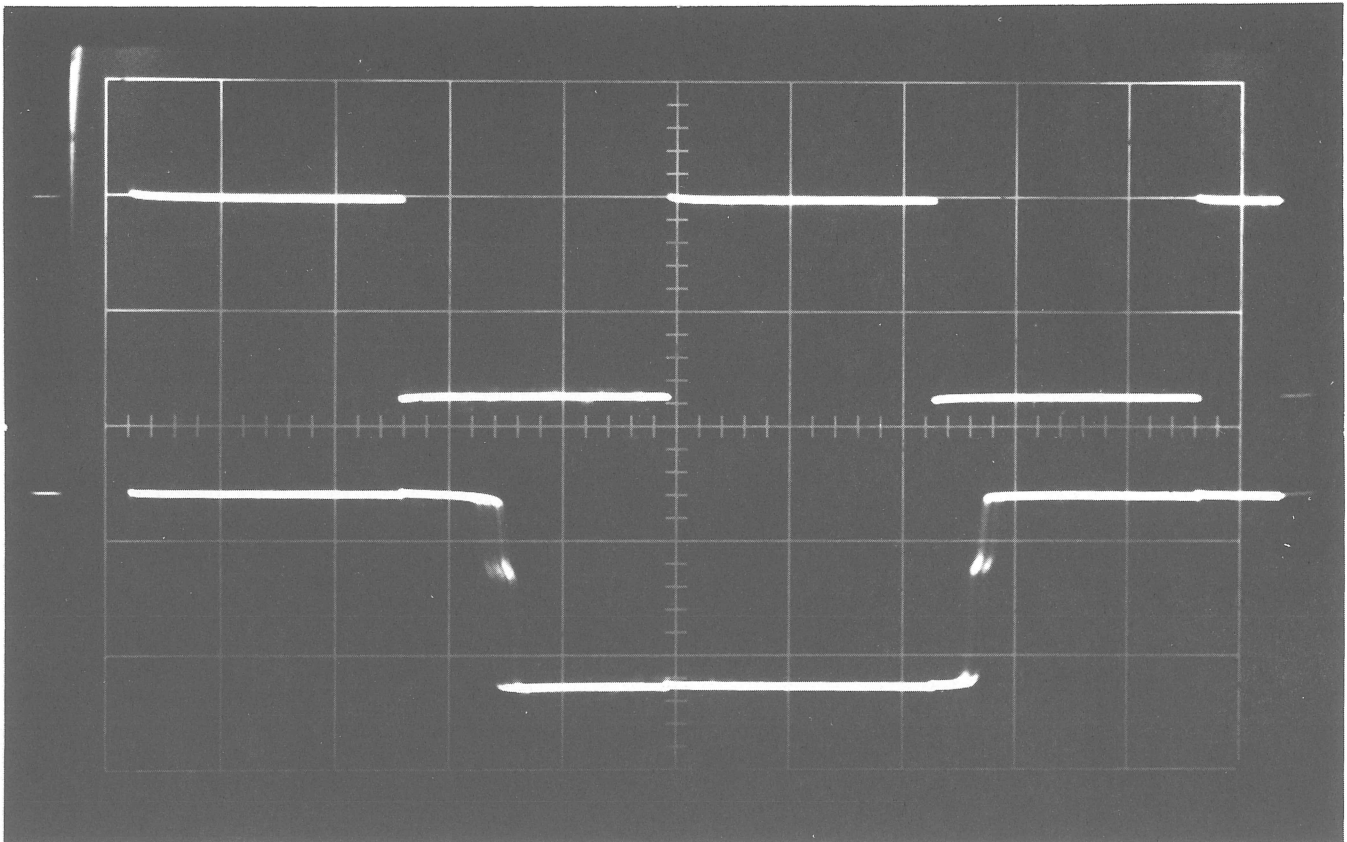

Figure 24 Reader Strobe Timing Adjustment
4.5.2 Procedure - SYNC and look at the strobe clock pin E12J in the I/O with probe 1. Look at any one of the channel outputs with probe 2. Refer to Figures 24 and 25. Strobng occurs during the UP clock (positive transition) of the strobe pulse which should be positioned so that it occurs in the center of the data. To position strobe, loosen the 4 screws that hold the stepping motor. Rotate the motor to position strobe then tighten the 4 screws. If it is impossible to position strobe by rotating the the motor, loosen the sprocket wheel and rotate it slightly. Tighten the sprocket wheel and set the final position of strobe by rotating the motor.